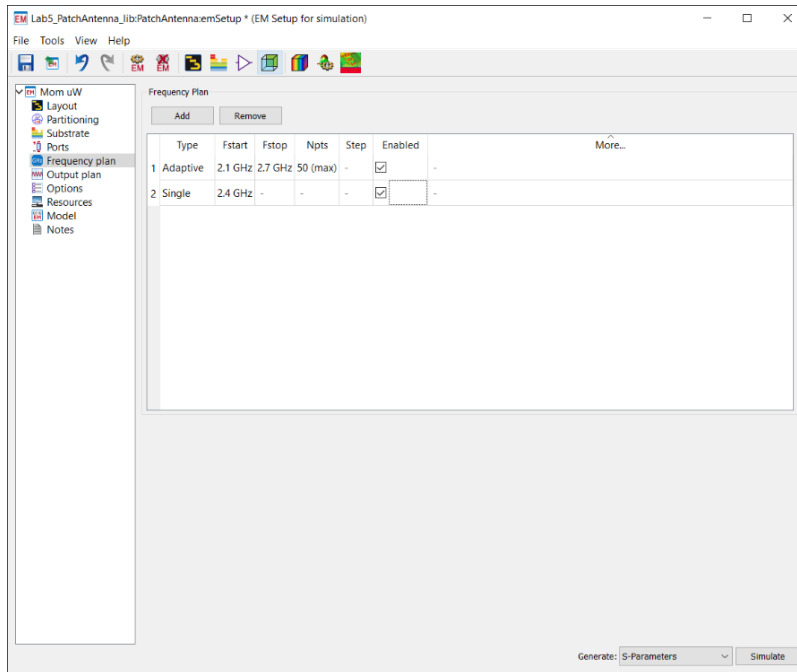

Figure 31. Frequency setup for simulation
- Set the Simulation Frequency range as **2.1 GHz to 2.7 GHz** (adaptive sweep). Add a new **Single Point of 2.4 GHz**. The frequency definition is shown in Figure 31.